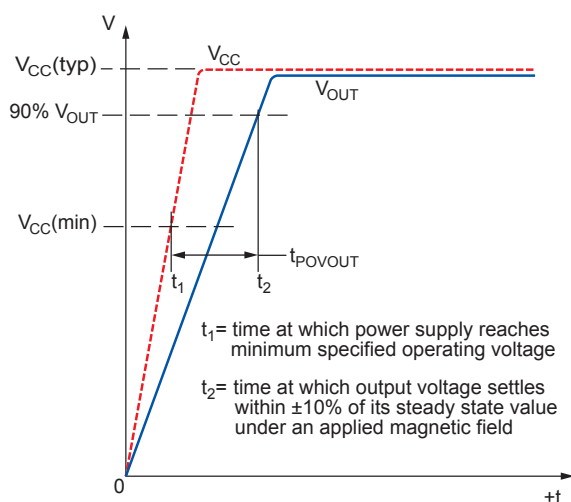

Figure 1: Definition of Analog Power-On Time,  $t_{POVOUT}$
**Power-On Time:** When the supply is ramped to its operating voltage, the device requires a finite time to power its internal components before supplying a valid PWM output duty-cycle. Power-On Time for analog output,  $t_{POVOUT}$ , is defined as the time it takes for the output voltage to settle within  $\pm 10\%$  of its steady-state value after the power supply has reached its minimum specified operating voltage,  $V_{CC(min)}$ . (See Figure 1.)